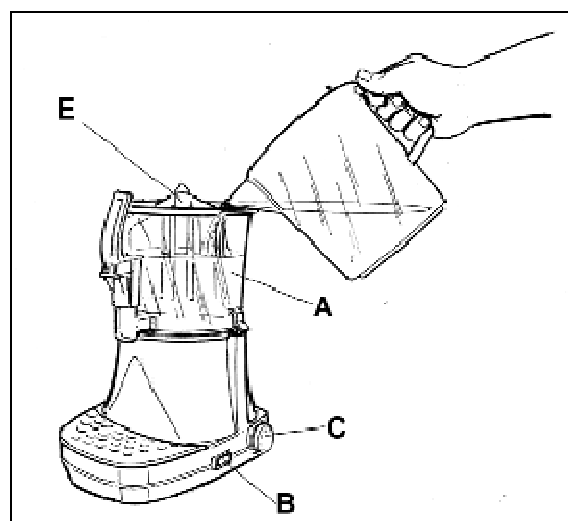

Fig. 4
- Lift up the lid and pour the product into container (A) and turn the machine on at switch (B). Put the thermostat (C) at the maximum temperature (see fig.4). Wait for the product to reach the right temperature to be dispensed.